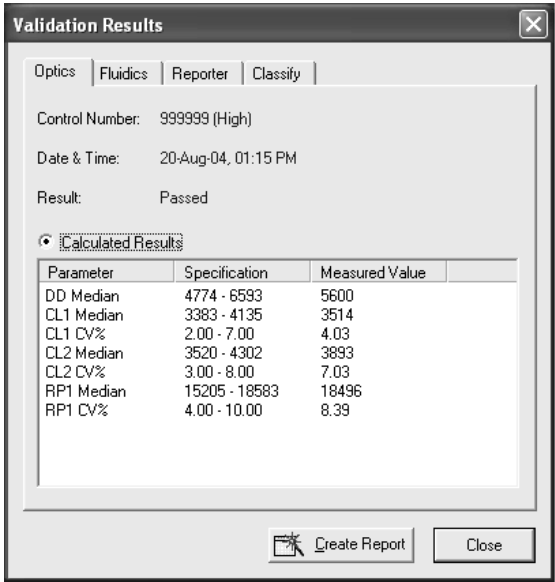

Fig. 3. Validation results.
11. When the procedure has completed, the results will be displayed in a dialog box as shown in Figure 3.